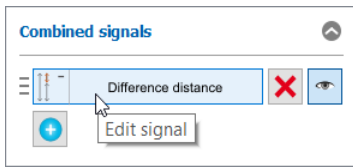

Fig. 5.7: Defining a new signal for calculation - step 4
- Press the button of the active signal (marked in blue, see Fig. 5.7) in the "Combined signals" input field to finish defining the new signal. This takes you back to the overview; all the signals defined for calculation are shown.